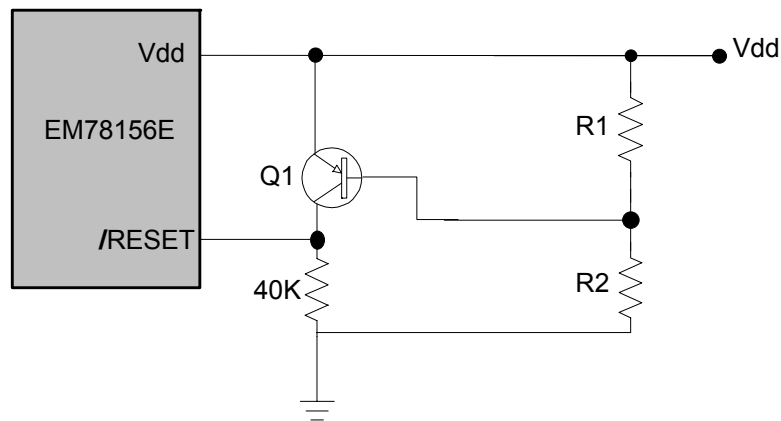

Fig. 16 Circuit 2 for the Residue Voltage Protection
The circuit shown in Fig.16 implements an external RC to produce the reset pulse. The pulse width (time constant) should be kept long enough for V_{dd} to reached minimum operation voltage. This circuit is used when the power supply has slow rise time. Because the current leakage from the /RESET pin is about $\pm 5\mu\text{A}$, it is recommended that R should not be greater than 40 K. In this way, the /RESET pin voltage is held below 0.2V. The diode (D) acts as a short circuit at the moment of power down. The capacitor C will discharge rapidly and fully. R_{in}, the current-limited resistor, will prevent high current or ESD (electrostatic discharge) from flowing to pin /RESET.